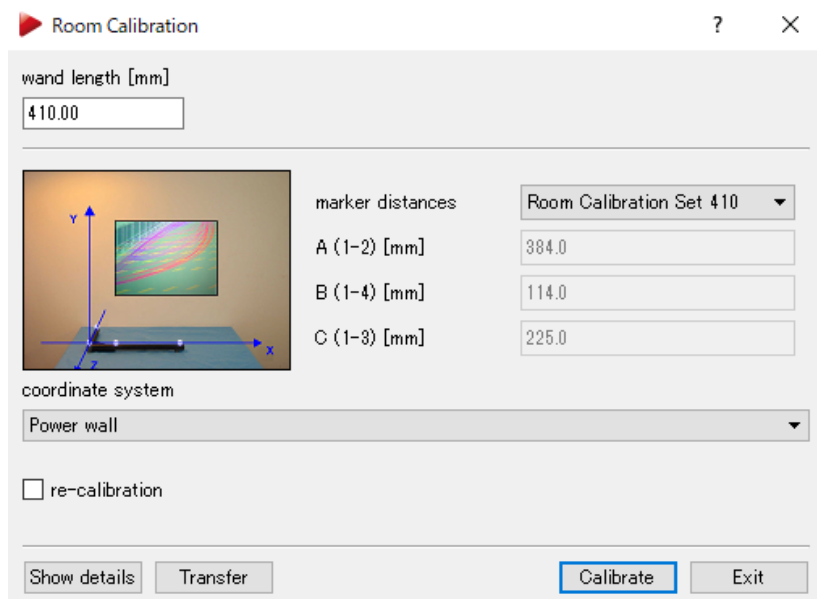

Figure 8 – Dtrack's room calibration offers two coordinate system options. For our application Power wall is the correct configuration.
1. Make sure that your ART room calibration is configured to "Power wall" in DTrack as shown in Figure 8. In this case the "axisPermutation" should be set to "xyz" in the "absoluteSources" block of the LPVR configuration file.